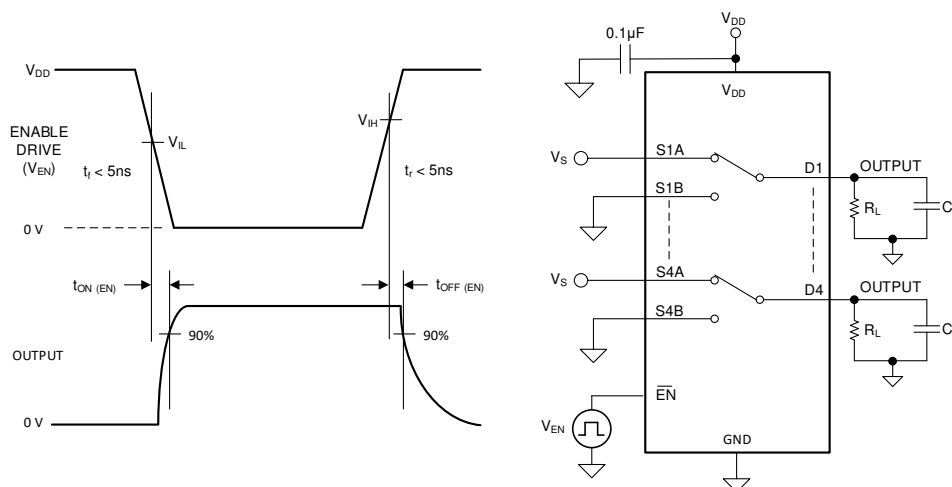

Figure 32. $t_{\text{ON (EN)}}$ and $t_{\text{OFF (EN)}}$ Time Measurement Setup
7.6 $t_{\text{ON (EN)}}$ and $t_{\text{OFF (EN)}}$ Time
The $t_{\text{ON (EN)}}$ time is defined as the time taken by the output of the device to rise to 90% after the enable has fallen past the logic threshold. The 90% measurement is used to provide the timing of the device being enabled in the system. Figure 32 shows the setup used to measure the enable time, denoted by the symbol $t_{\text{ON (EN)}}$.
The $t_{\text{OFF (EN)}}$ time is defined as the time taken by the output of the device to fall to 90% after the enable has fallen past the logic threshold. The 90% measurement is used to provide the timing of the device being disabled in the system. Figure 32 shows the setup used to measure enable time, denoted by the symbol $t_{\text{OFF (EN)}}$.